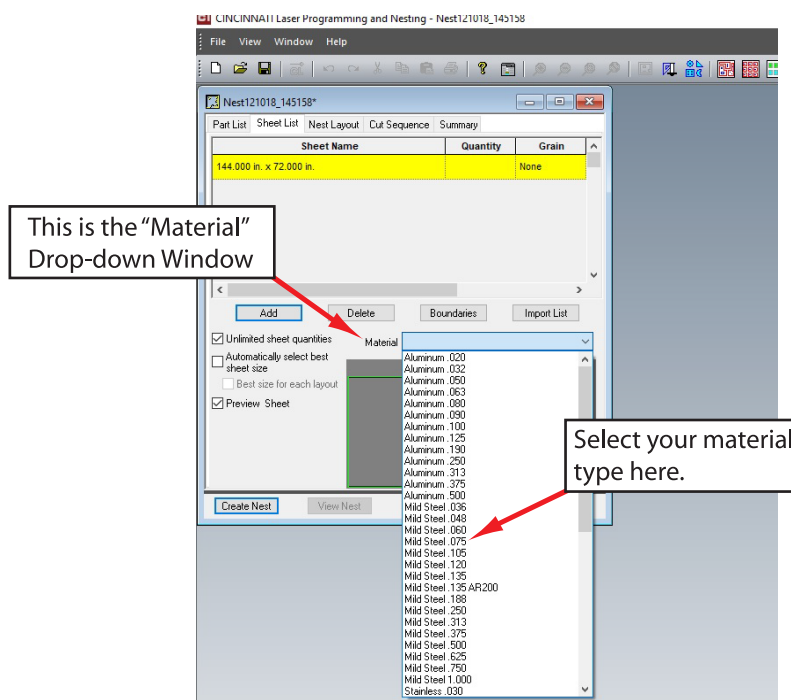

Fig.7
6) Now you will add the "type" of material you will need for the nest by clicking the drop-down "Material" menu shown in Fig. 7. Choices for what material types you can select are in that drop-down which are created in the Configuration section of the software. These will include stock default materials as well as any new or special materials that you may have added to your configuration .